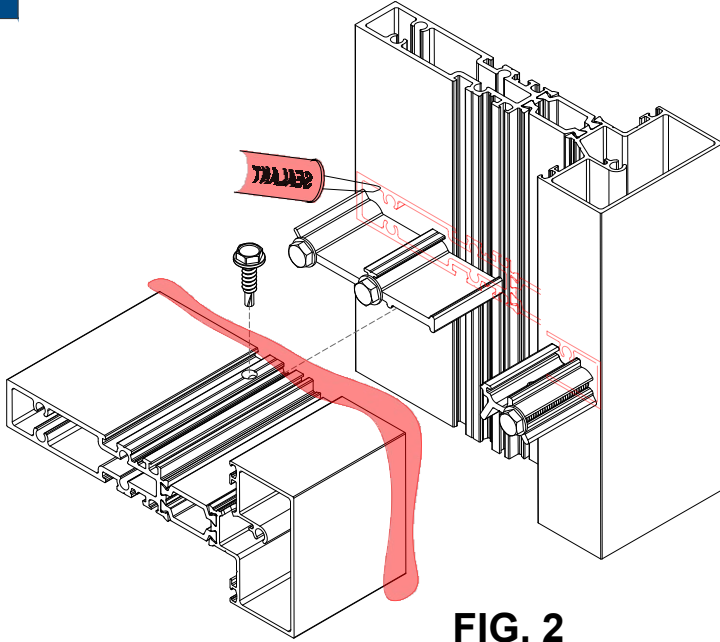

FIG. 2
- Apply sealant to the both ends of the profile. **See FIG 2.**